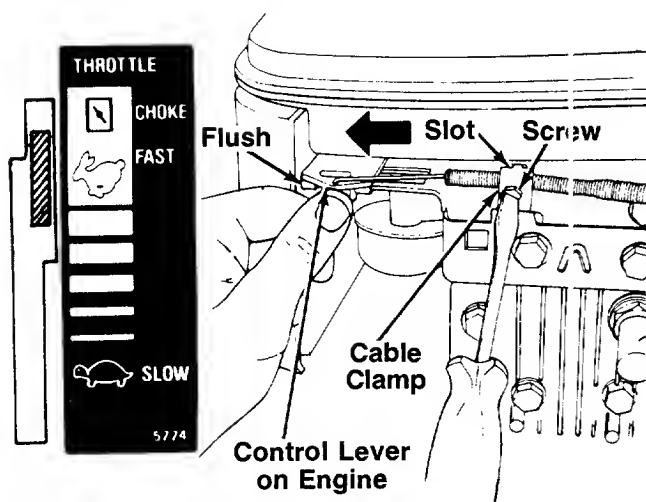

FIGURE 5A.—Models 466B and 476B
1. Push the throttle control lever on the handle all the way forward to **CHOKE**, then back it off **two "clicks"** (approximately 5/16"). See figure 5A.
2. The throttle control cable is attached to the upper handle. Route the throttle control cable under the lower handle and inside the handle mounting bracket. Hook the "Z" end of the throttle control cable into the hole in the control lever on the engine. See figure 5A.
3. Using a 5/16" wrench or nutdriver, remove the screw on the cable clamp shown in figure 5A. Slip the control cable under the clamp. Replace the screw (cable should be above the screw), but do not tighten (cable must still move freely beneath the clamp). Make certain the tab on the cable clamp is seated into the slot on the engine.
4. Push the control lever on the engine as far toward the **outside** of the engine as it will go. The edge of the control lever should be flush with the bracket on the engine. See figure 5A. Hold the control lever in this position as you tighten the screw on the cable clamp to secure the throttle cable.